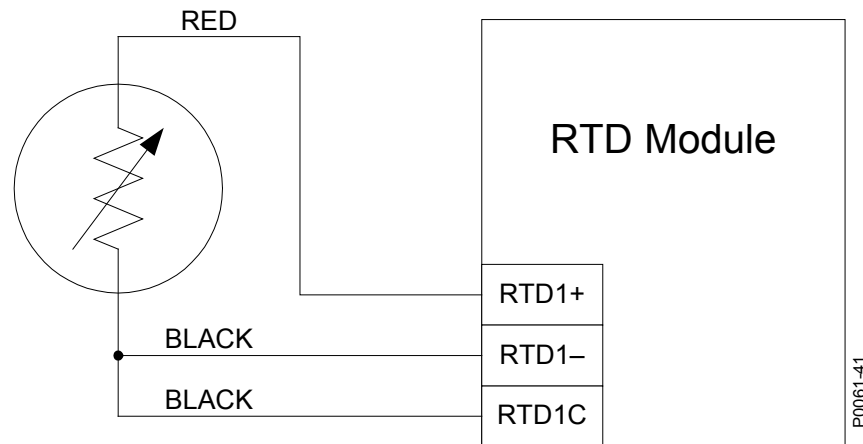

Figure 70-2. RTD1, 3-Wire Connection
Step 18: Connect a variable resistor and set its value to 120  $\Omega$  or connect a fixed 120  $\Omega$  resistor to the RTD1 input on the remote module in three-wire configuration as shown in Figure 70-2.